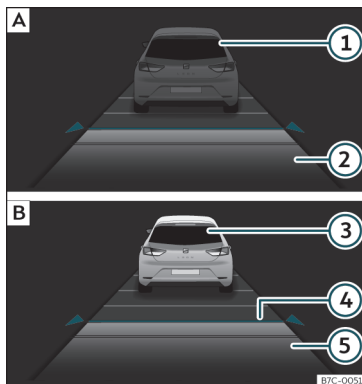
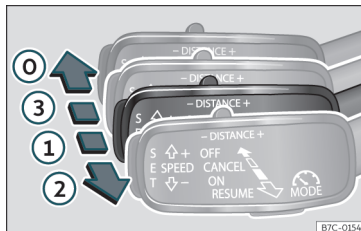
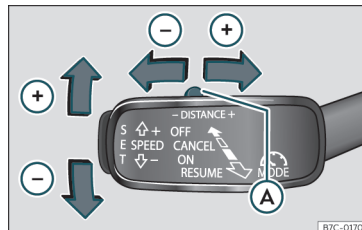

Fig. 210 On the instrument panel display: (A) ACC inactive (Standby). (B) ACC active.
Fig. 212 On the left of the steering column: third lever for operating the Adaptive Cruise Control.
Fig. 213 On the left of the steering column: third lever for operating the Adaptive Cruise Control.
Indications on the display >>> **Fig. 210:**
When the Adaptive Cruise Control (ACC) is connected, the green control lamp (🚦) will light up on the instrument panel, and the programmed speed and ACC status will be displayed >>> **Fig. 210**.
Once you are driving, if you wish to set the current speed as the vehicle's cruise speed and activate the ACC, press the **SET** >>> **Fig. 213** button. If you wish to increase or reduce speed by intervals of 1 km/h (0.6 mph), move the lever to position ② >>> **Fig. 212** or press the **SET** button, respectively.
The set speed can be changed when the vehicle is stopped or during driving, as you like. Any modification to the programmed speed will be shown on the bottom left part of the instrument panel display >>> **Fig. 210**.
To increase/reduce the distance level, press the rocker switch towards the left/right >>> **Fig. 213** (A).
- To activate the ACC, with the third lever in position ① press the **SET** button or move the third lever of the ACC to position ② >>> **Fig. 212**. At this point, the image of the ACC on the instrument panel display will switch to Active mode >>> **Fig. 210**.
To disconnect the ACC move the lever to the ③ position >>> **Fig. 212** (engaged). An **ACC deactivated** message appears and the function is totally deactivated.
If you do not wish to disconnect the ACC, just to switch it temporarily to inactive mode (Standby), move the third lever to position ③ >>> **Fig. 212** or press the brake pedal.